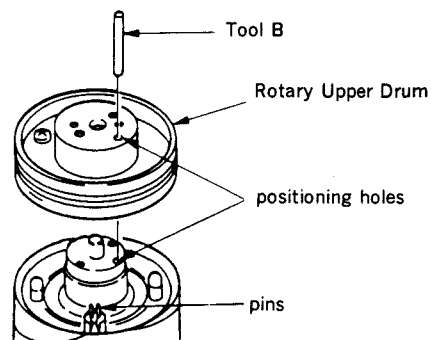

Fig. 3
- (1) Clean the flange surface of the Lower Drum and the contact point of the new Rotary Upper Drum with a cleaning piece. Check that no dust or flaw are left.
- (2) While adjusting the positional relationship of the Rotary Upper Drum and positioning hole with the tool B, insert the Rotary Upper Drum lightly. At this time, Check that the terminals project out from the PC Board of the Rotary Upper Drum. When the terminals are caught, correct them with a pair of tweezers, etc.. Remove the tool B and lightly push the Rotary Upper Drum by hand. If the Rotary Upper Drum does not down to the bottom, thread the two fixing screws to the Rotary Upper Drum alternately, but do not tighten them. Insert the tool B in the positioning hole and check that the tool B can be inserted smoothly again. If the tool B can not be inserted, loosen the two screws (M 2 x 5) and adjust the position of the Rotary Upper Drum by precision screwdriver. (fig. 3 and 4)
- (3) Tighten the two hexagon screws (M2 X 5).
- (4) Assemble the parts with Removal Steps (1) to (4) in reverse order.